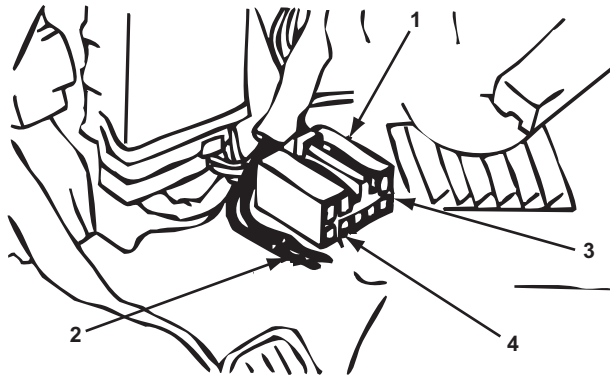

Figure 15-54 2000-04 Legacy ABS diagnosis connector location
1. Locate the ABS diagnosis connector and diagnosis terminals near the heater assembly on the driver side (Figure 15-54).